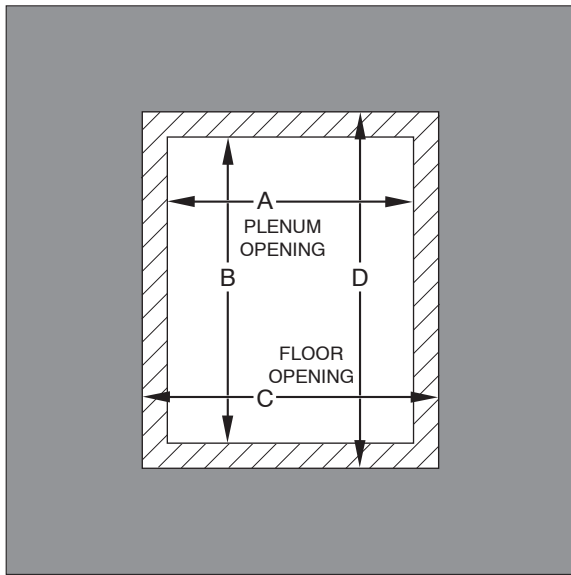

Fig. 13 - Floor and Plenum Opening Dimensions
1. Construct hole in floor per dimensions specified in Fig. 13 and Table 1.
2. Construct plenum to dimensions specified in Fig. 13 and Table 1.